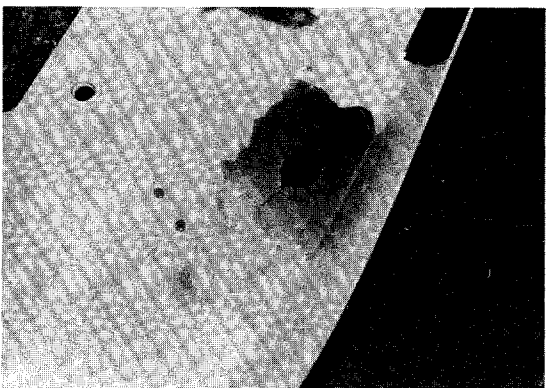

Figure 14-13
4. Following manufacturer's instructions, mix enough resin and hardener to cover the damaged area and at least two inches beyond (**Figure 14-13**). Cover the entire area with this mixture.